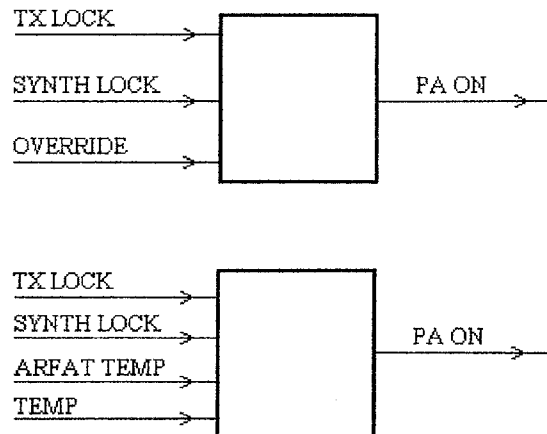

Fig 4. Output Function - PA On
47. The output function P.A. ON (Fig 4) is only present when TRANSMITTER LOCK AND SYNTHESISER LOCK AND (OVERRIDE OR ARFAT TEMP AND TEMP) are present as inputs.